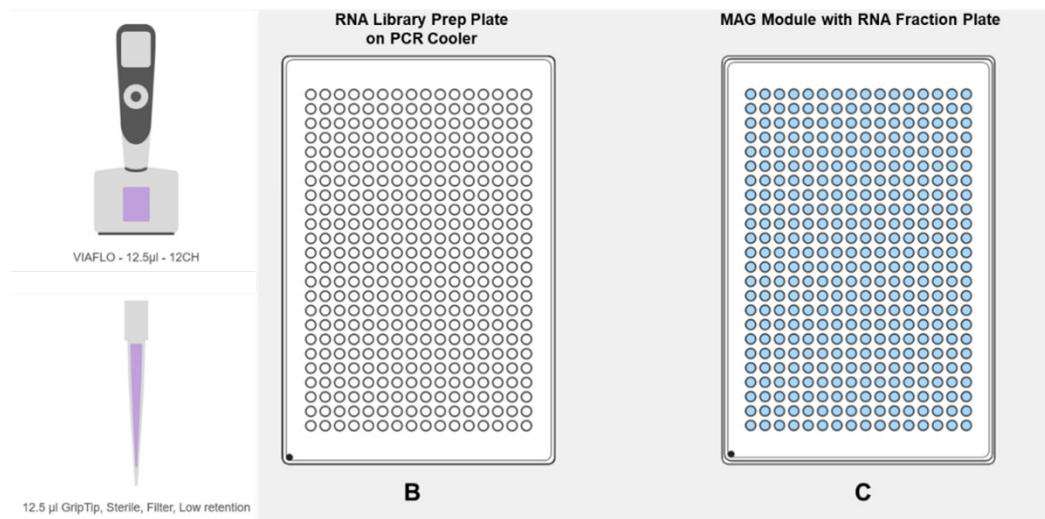

Figure 19: RO384_08R_LPRNA.
9. To create the RNA Library Prep Plate, place an empty 384-well plate labeled “RNA Library Prep Plate” in a PCR cooler on Position B on the deck. Place the RNA Fraction plate on the 384-well MAG Module in Position C (Figure 19).